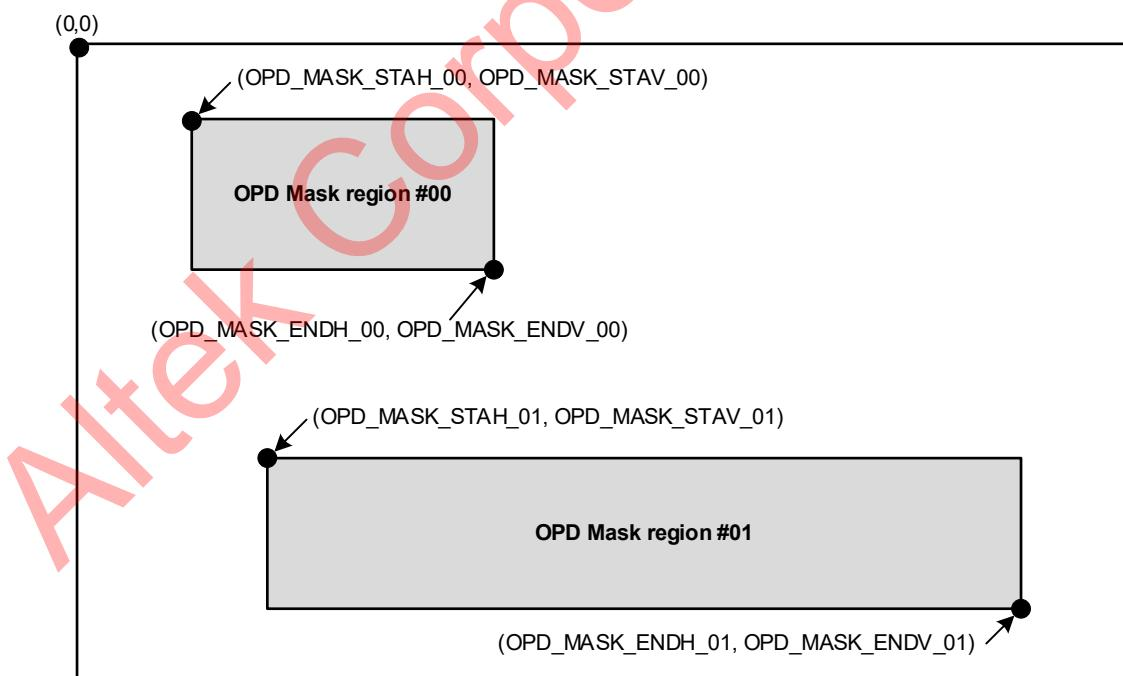

Figure 5-18 Rectangular Regions to Be Masked
- “**Figure 5-18**” illustrates an example of setting rectangular regions.